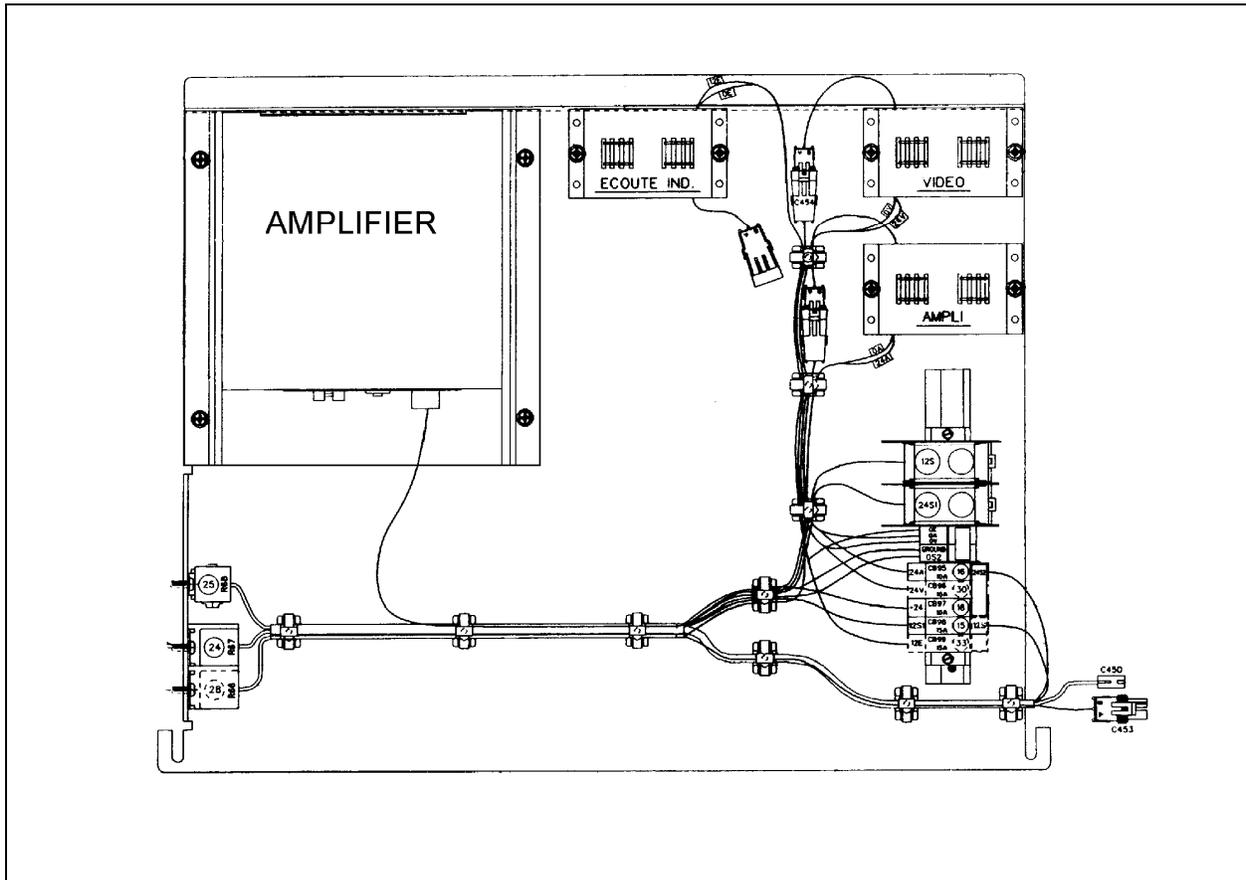

FIGURE 1: SOUND SYSTEM JUNCTION PLATE
The power amplifier is mounted on a sound system junction plate which is located in the first baggage compartment, L.H. side (Fig. 1), to access, open the first baggage compartment. In addition to the public address (PA) systems, options for AM/FM stereo radio and cassette player, CD changer, karaoke, wireless microphone, video system with monitors, scenic viewer and digital processor controller may be featured.